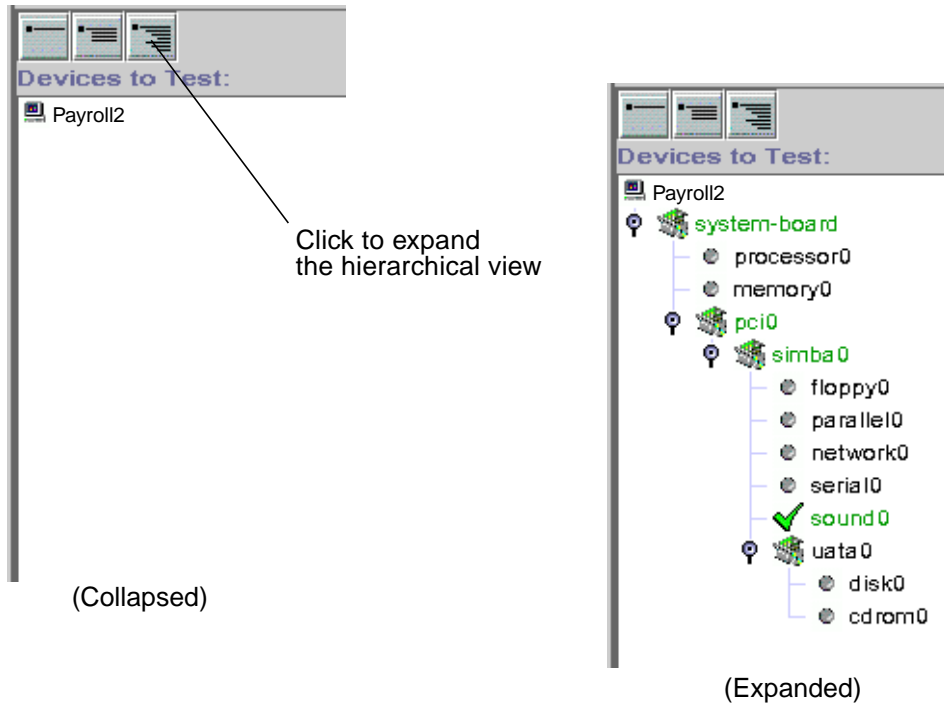

FIGURE 3-1 Expanding the Hierarchical View
1. **If necessary, expand the hierarchy view to show the devices on the host by clicking on one of the hierarchy view buttons (FIGURE 3-1).**